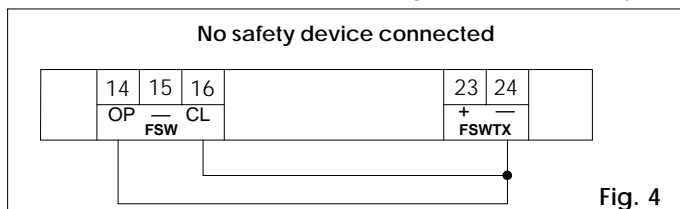

Fig. 4
N.B.: If opening safety devices are not connected, jumper inputs **OP** and **FSW TX** (Fig. 4).
N.B.: If closing safety devices are not connected, jumper inputs **OP** and **FSW TX** (fig. 4).